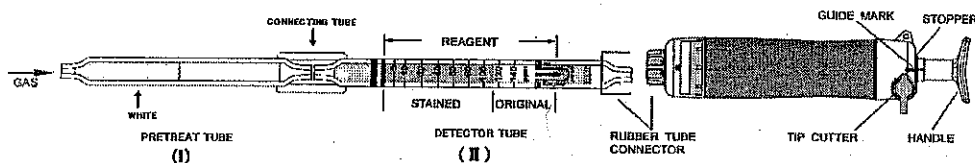

Fig.1
- ① Break both ends of the pretreat tube (I) and detector tube (II), and connect each end of the pretreat tube (I) and detector tube (II) with connecting tube as shown in Fig. 1.
- ② Insert the detector tube (II) into the aspirating pump securely as shown in Fig.1. (Arrow mark shall point to the pump.)
- ③ Align the guide marks on the shaft and stopper of the aspirating pump.
- ④ Pull the pump handle at a full stroke until it locks and wait for 2 minutes or until the completion of sampling is confirmed with the flow indicator of the pump (See descriptions about the flow indicator in the instruction manual of the pump).
- ⑤ On completion of sampling, read the scale at the maximum point of the stained layer.
- ⑥ When the concentration is below the scale range, 5 pump strokes can be used to determine concentrations of 1 to 5 ppm. Then multiply the reading value by 1/5.